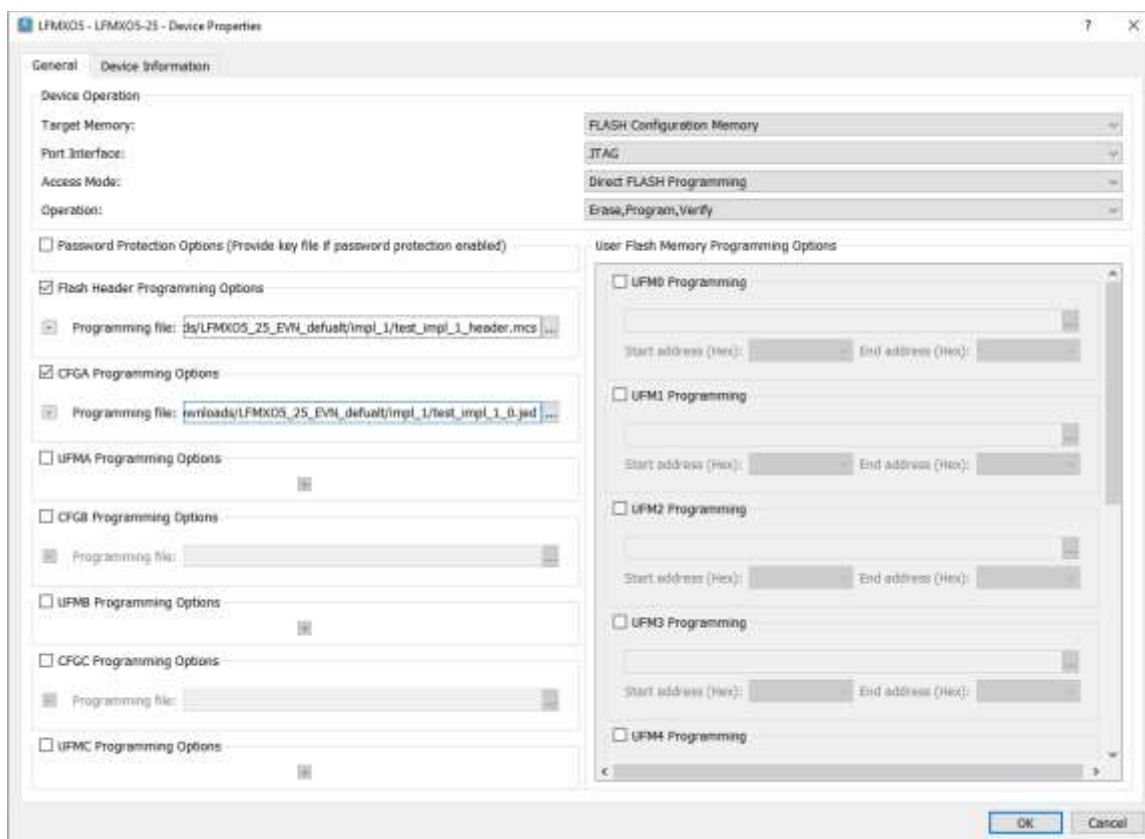

Figure 9.5. Radiant Programmer – Device Properties
6. Open the **Device Properties** dialog box by double click Operation column, as shown in Figure 9.5. Select the following options: